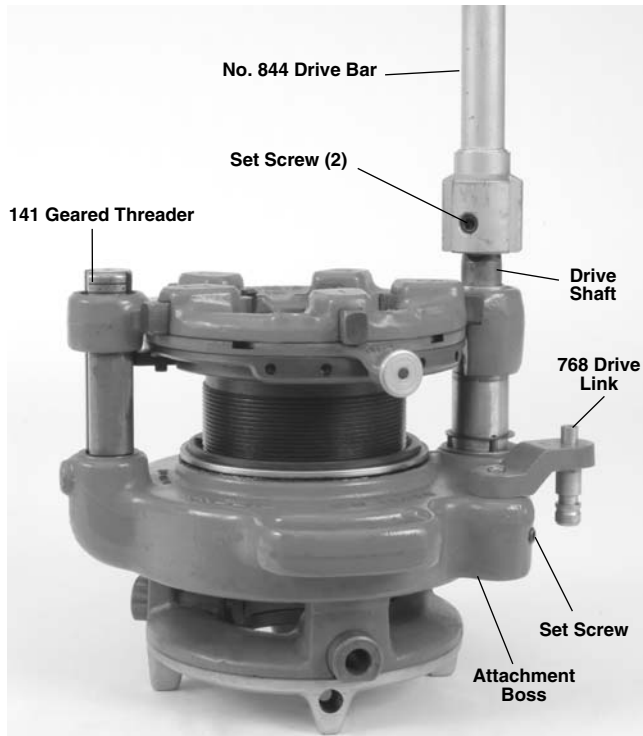

Figure 15 – 844 Drive Bar and 768 Drive Link Installed
8. With the drive shaft of the geared threader up, attach the 844 Drive Bar and securely tighten the two set - screws to retain in place (*See Figure 15*). For 535A machine, do not attach drive bar at this time.
1. Loosen setscrew in geared threader attachment boss. Install the 768 Drive Link into boss and tighten set-screw to retain (Figure 15). Do not over tighten – the drive link should rotate freely.